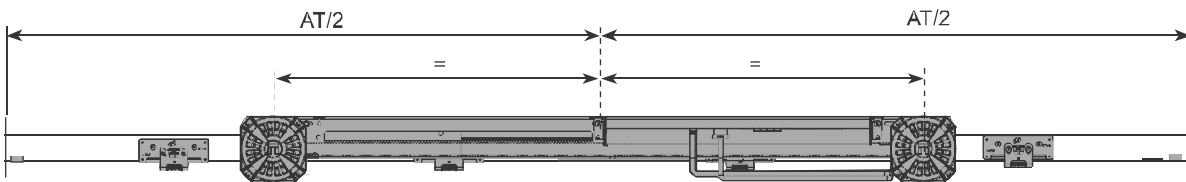

Fig. 10.3
**i** Position the drive unit so that the two motors are the same distance from the centre of AT. Fig. 10.3